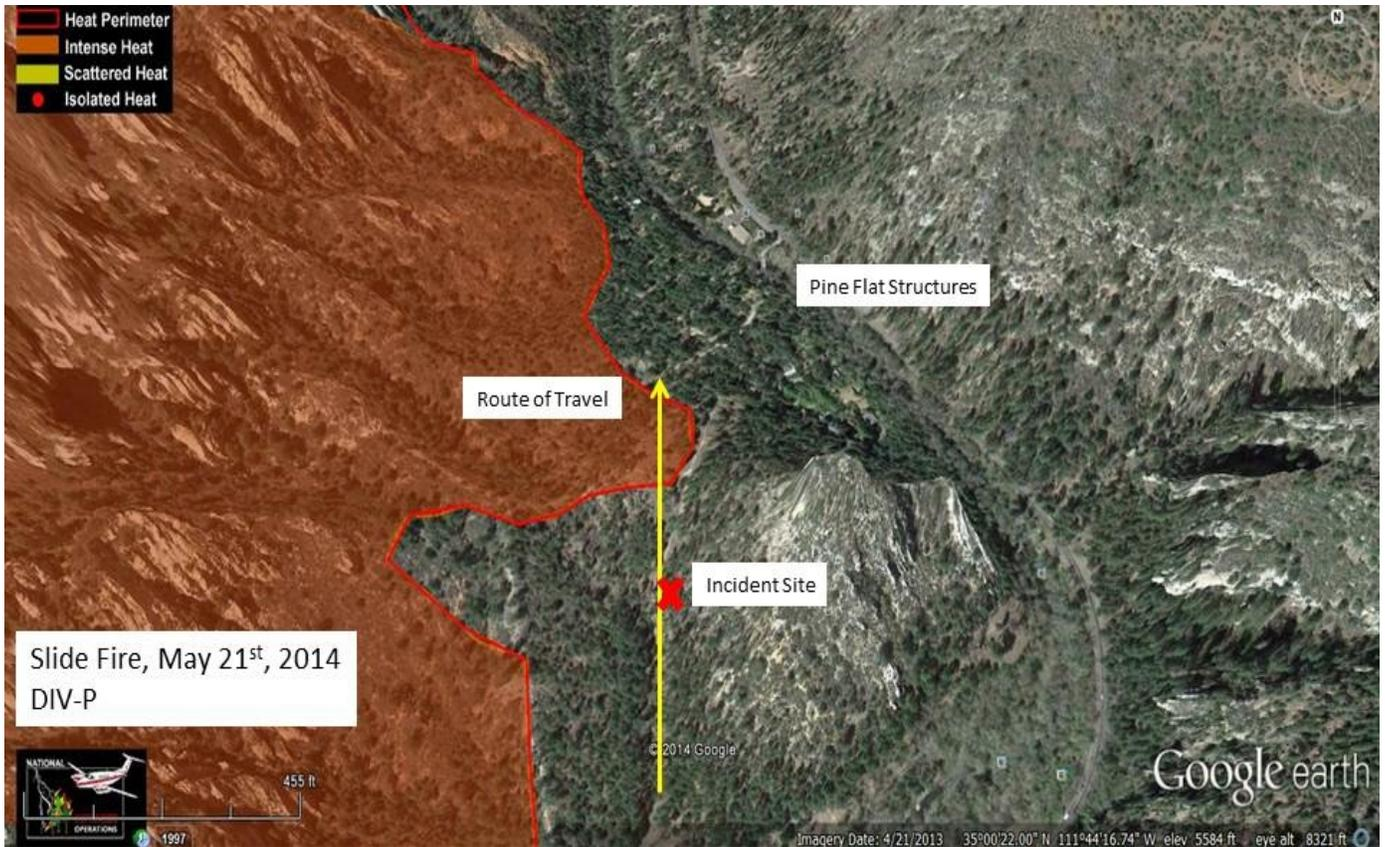

Figure 1
- Helicopter managers and pilots should review the Interagency Helicopter Operations Guide, Chapter 6.2 Wind Restrictions for Types 1 - 3 Helicopters (see Figure 1, below).
- All pilots should review section C-10(b)(2) of the contract which states, "The Pilot is responsible for computing the weight and balance for all flights and for assuring that the gross weight and center of gravity do not exceed the aircrafts limitations.